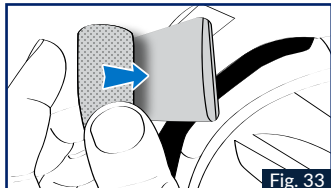

Fig. 33
3. Affix the foam cushioning present in your SENA FOR SHARK kit (Bluetooth or Mesh) to the back of the battery of your Intercom Fig. 33